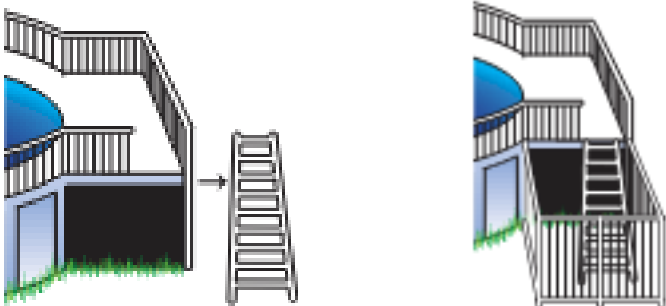

Figure 13
12. Where an **above ground pool structure is used as a barrier** or where the barrier is mounted on top of the pool structure, and means of access is a ladder or steps, then: (fig. 13)